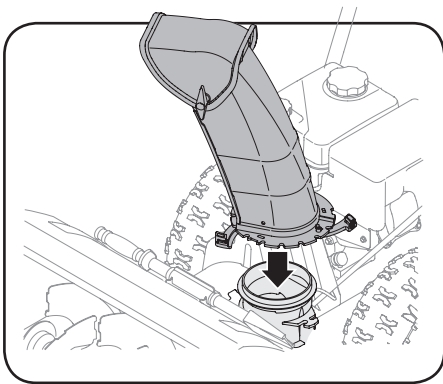

Figure 2-11
1. Position the chute assembly over the base, seated securely on adapter. See Figure 2-11.